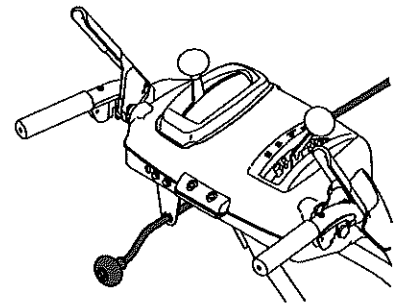

Figure 2-10
4. Insert chute control rod into the support bracket on rear of the dash panel. See Figure 2-10.